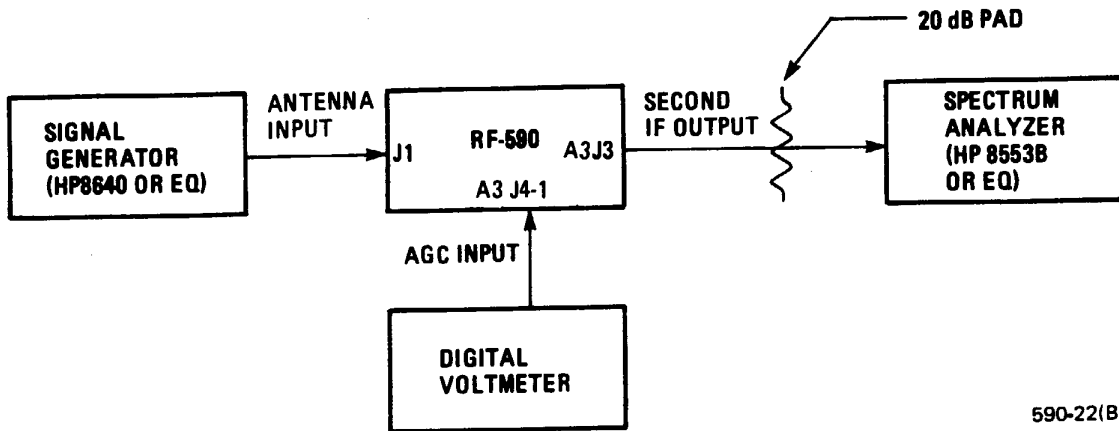

Figure 2. A3 AGC Test Setup
b. Connect equipment as shown in figure 2.